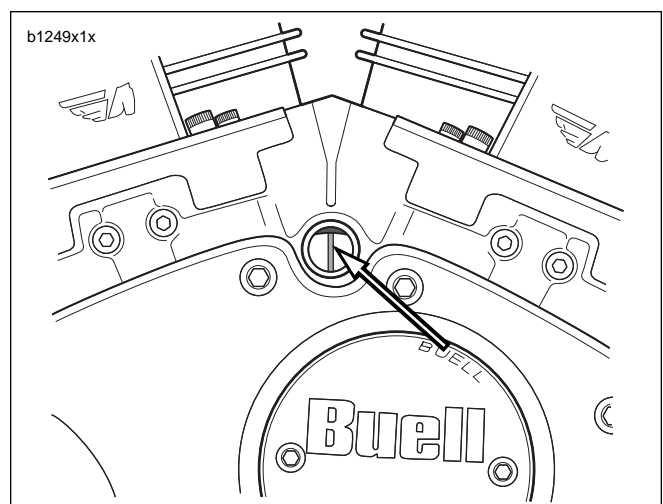

Figure 1-52. Correct Timing
9. See Figure 1-52. If the static timing is correct, the screen will switch to HIGH - 5 volts at the precise moment the timing mark exactly centers in the inspection window.